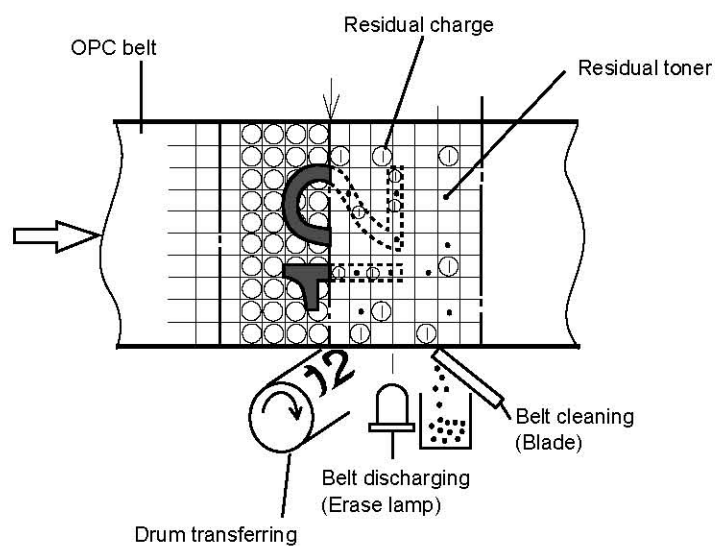

Fig. 4-18
- (2) First Transfer Process (Refer to Fig.4-18.)